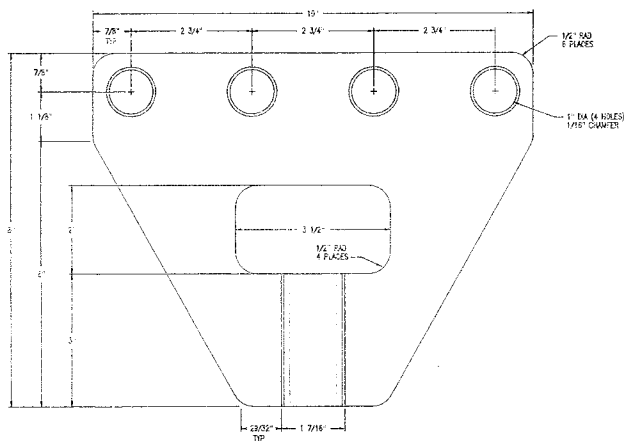

Figure 3-33 Rake Lift Yoke
6. Thread the four (4) rake lifting cables from the top beam pulley assemblies through the four (4) holes in the yoke (triangular draw bracket).
7. Insert a cable thimble (provided) in each hole of the yoke as shown in Detail A of Figure 3-33. Loop the cables through the hole and loosely attach two (2) cable clamps to each. These will be adjusted and tightened in a later step.
8. Connect the ends of the four cables to the lifting yoke shown in Figure 3-33 and 3-34.